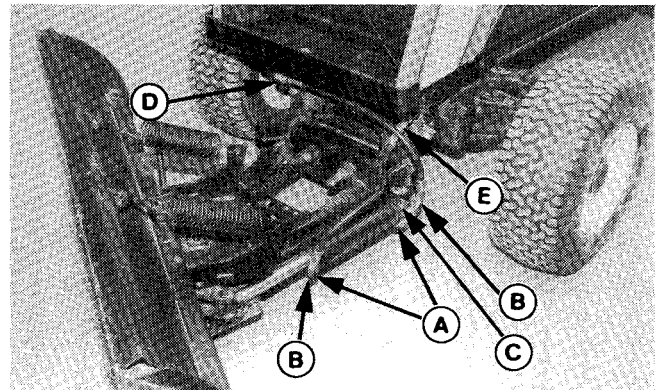

Figure 12.
- Position the cylinder as shown in Figure 12 with rod toward dozer blade.